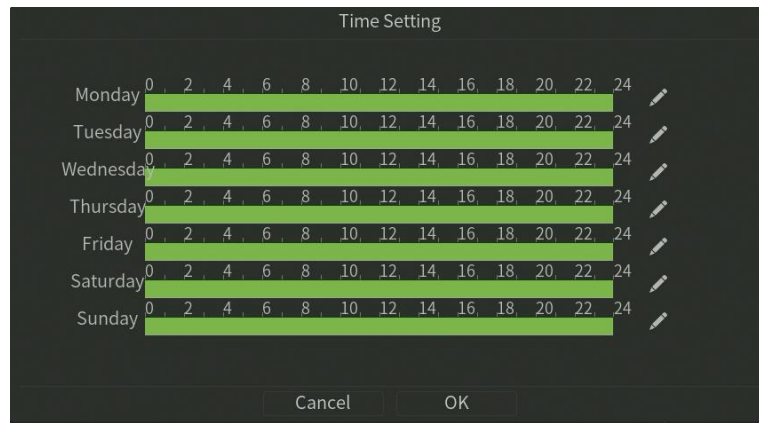

Figure 6.16 Time Setting
- Click Arming button, Setup the Time Setting of the channel, as shown in figure 6.16.